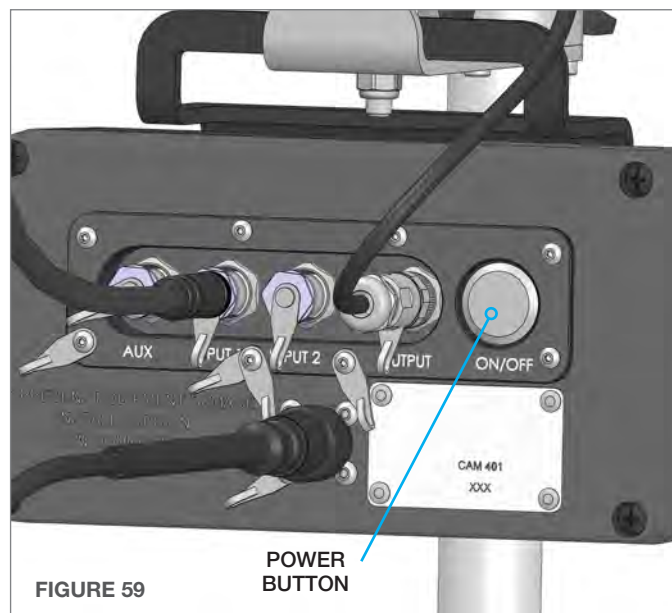

FIGURE 59
- Push the Power Button ON the Power Pack. This will activate the Monitor Screen on the Control Box and allow sight into the Dome. **(Figure 59)**